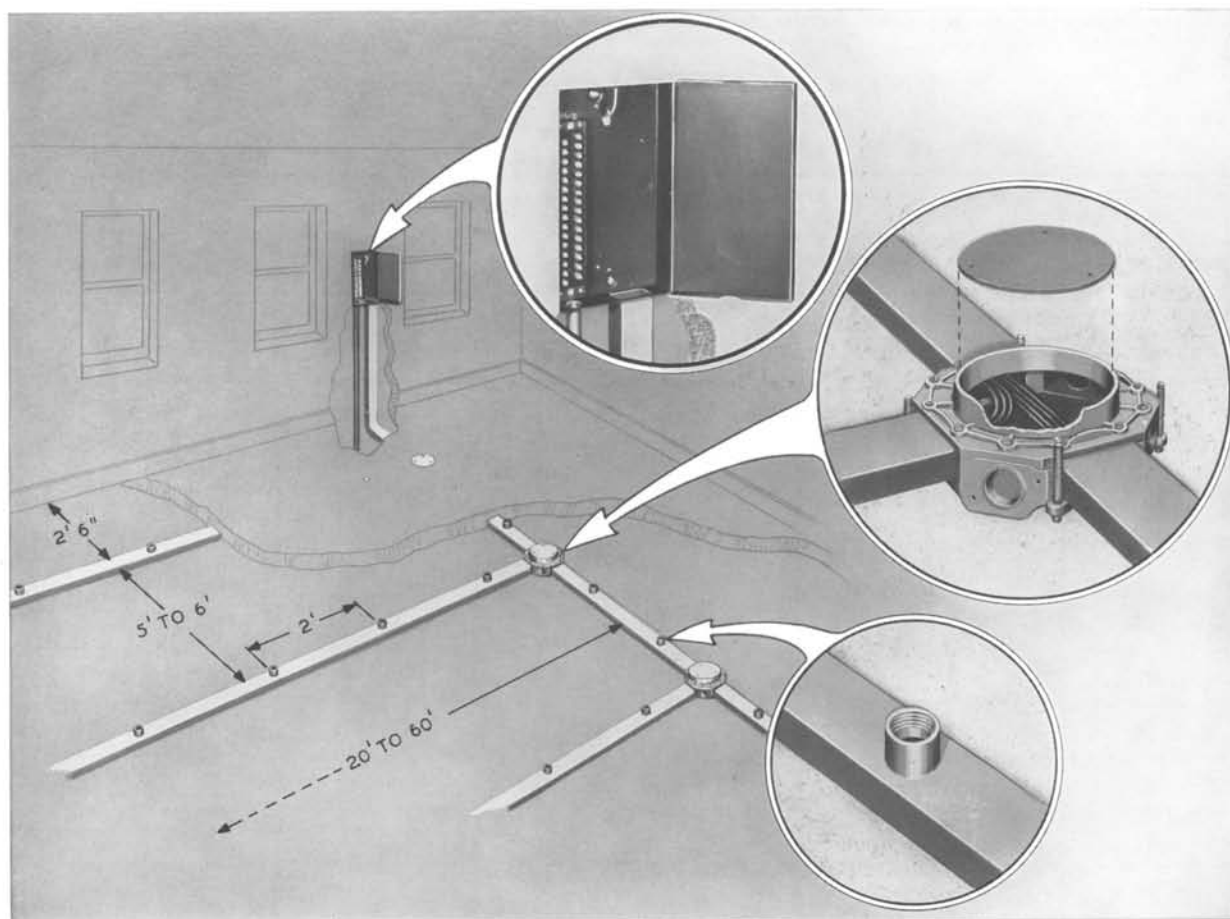

FIG. 3—STEEL GRIDWORK CONDUIT SYSTEM
1. The gridwork conduit system consists of a series of parallel branch ducts with junction boxes at the intersection of cross ducts. An outlet provided with a removable cap will be found in the floor every 24 inches. (See Fig. 3.)